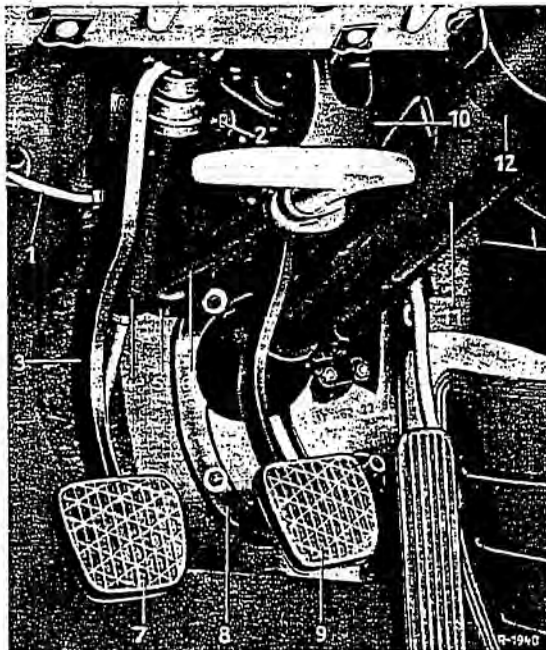

Fig. 42-18/2
- Swivel the front brake cable (1) inward and detach from the brake lever (4) (see Fig. 42-18/5).